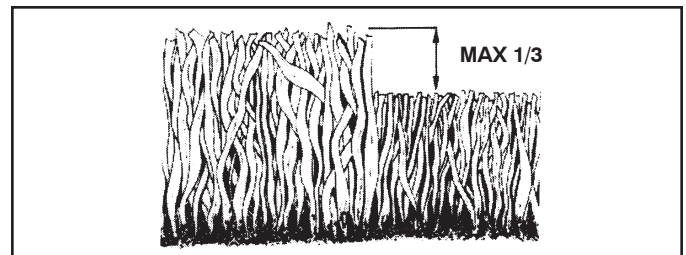

Fig. 10
- For best results, adjust the mower cutting height so that the mower cuts off only the top one-third of the grass blades (See Fig. 10). For extremely heavy mulching, reduce your width of cut on each pass and mow slowly.